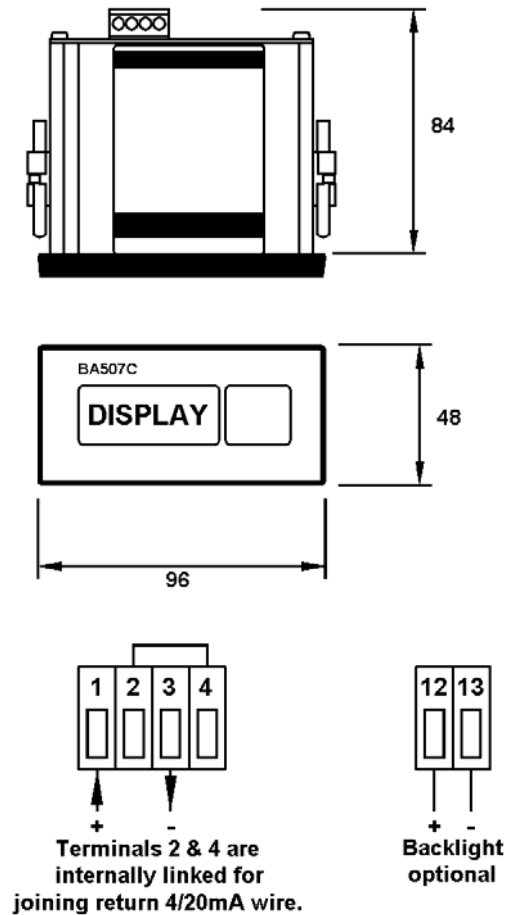

Fig 4A BA507C dimensions
Figs 4A and 4B show the overall dimensions of each instrument and the required panel cut-out dimensions.
- Connect the panel wiring to the rear terminal block(s) as shown in Figs 4A and 4B. To simplify installation, the terminals are removable so that the panel wiring can be completed before the instrument is installed.